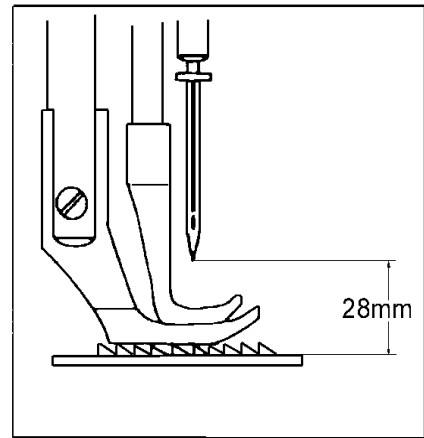

Fig.10
14、 ADJUSTING THE HEIGHT OF THE NEEDLE BAR (Fig.10)